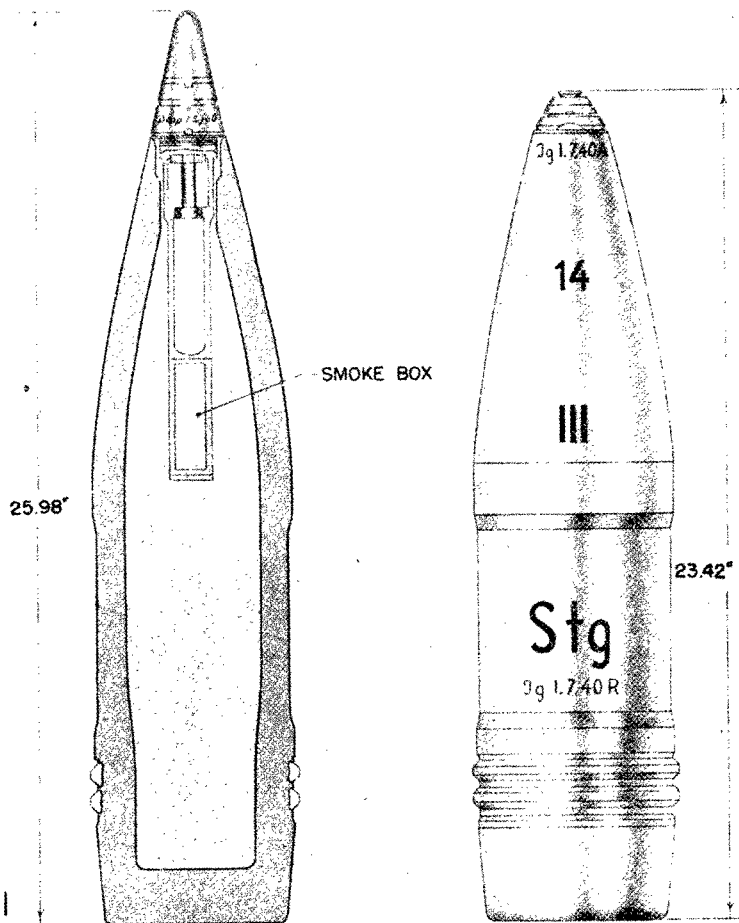

Figure 498—H. E. Projectile of Cast Steel, 150-mm, 15-cm Gr. 19 Stg.
**GERMAN NOMENCLATURE** : 15-cm Gr. 19 Stg. (Granate 19 Stg.). (See fig. 498.)